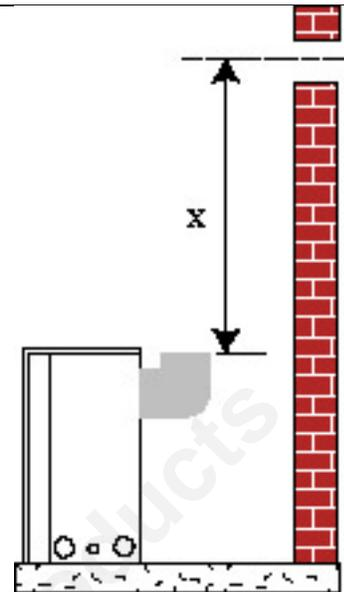

Fig. 24
Apply a bead of high temperature sealant to the vent flanges on the back of the appliance and attach a 90° transition elbow. Ensure that the inner and outer elbow ends are concentric before attaching the vertical lengths of venting. Place the fireplace into position. (Fig. 24). Measure the vertical height (X) required from the end of the transition elbow to the centre of the wall opening.